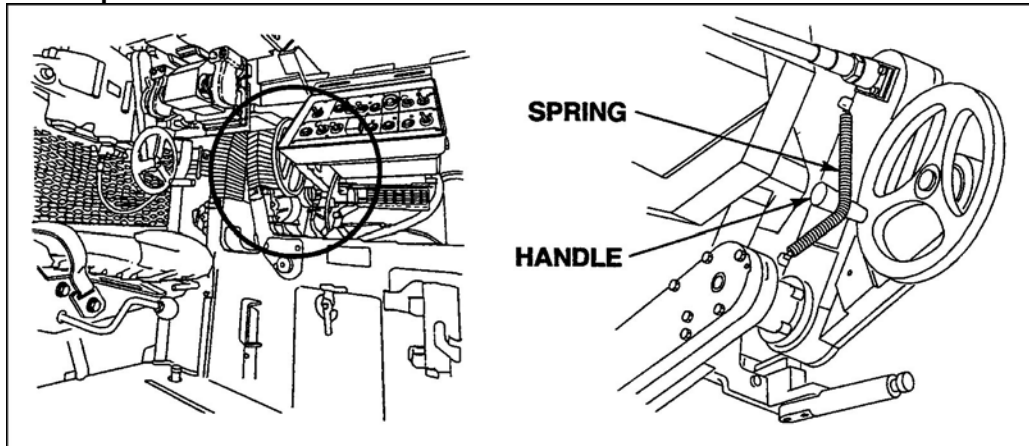

Figure 4. Gun elevation drive (GED) handwheel.
- (1) Press and hold the push button.
- (2) Move the TOW select lever to MANUAL and release the push button.
- d. Remove the spring from the handle of the gun elevation handwheel (Figure 4).